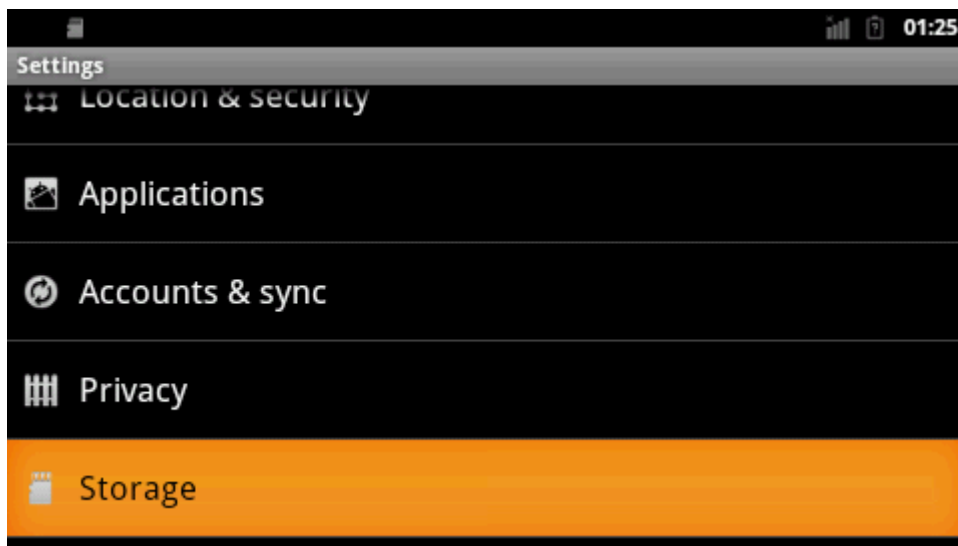

Figure 5-16
(6) After entering it, select "Storage" option. Refer to figure 5-16: